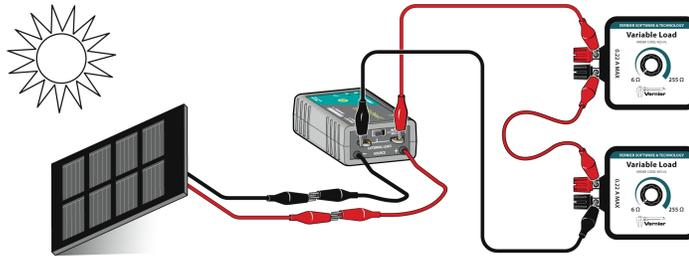

Figure 3
- a. Connect two Variable Loads to the Energy Sensor Load terminals in series as in Figure 3.